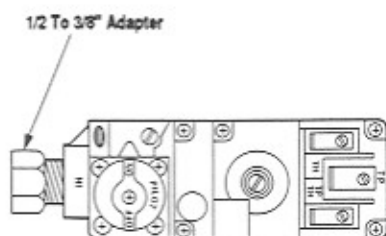

Figure 20
Step 2. Remove the 3/8" adapter fitting from the flex connector and attach the adapter to the gas control valve using a wrench and pipe joint compound. Tighten securely (Figure 20).